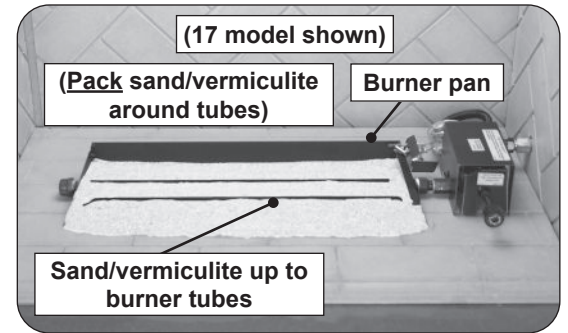

Fig. 19-1 Place sand/vermiculite
- Partially fill the burner pan with the sand/vermiculite until it rests at a level toward the top of the burner tubes as shown in Fig. 19-1.